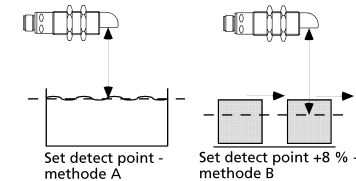

Fig. 3: Setting the detect point for different directions of movement of the object
■ If the object to be scanned moves into the detection area from the side, the »Set detect point +8 % – method B« Teach-in procedure should be used. In this way the switching distance is set 8 % further than the actual measured distance to the object. This ensures a reliable switching distance even if the height of the objects varies slightly, see fig. 3.